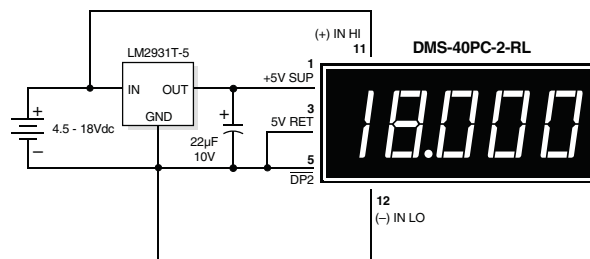

Figure 4. 4.5-18V Power Supply Monitor
3. Power Supply Monitoring: One of the most widely used digital panel voltmeter applications is monitoring the output voltage of a system power supply — often the same supply that also powers the meter. The low-power, red LED DMS-40PC-2-RL, with its excellent 0.001Vdc resolution, can be configured to monitor power supplies with outputs in the range of 4.5-18Vdc. The circuit in Figure 4 uses a low-drop-out, three-terminal regulator (LM-2931T-5, in a T0-220 package, available from National Semiconductor) to provide regulated 5V power to the meter.